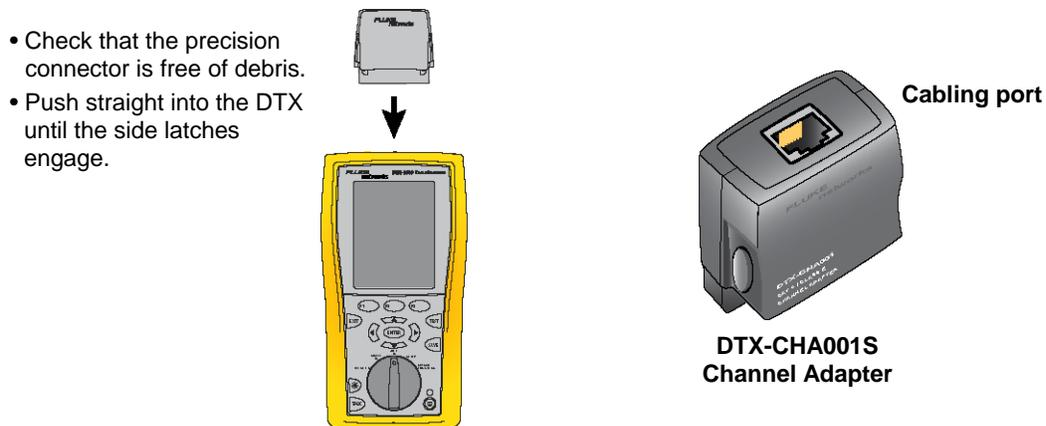

Figure 5. DTX 1800 Channel Adapters
- Each Channel Adapter has an “RJ45” interface for connecting to the channel under test, see Figure 5.